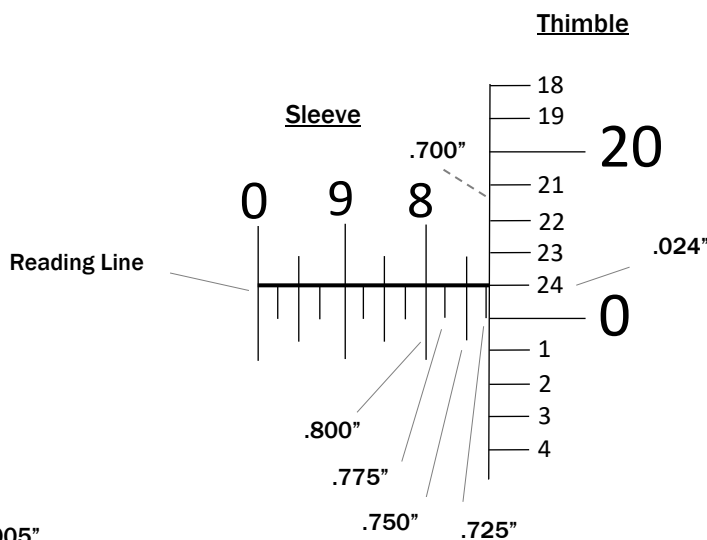

Fig.13B
2. Fig.13B, Which of the smaller thousandths (.025") lines are showing on the sleeve below the 8 line? If the .775", .750" and .725" lines are showing then the measurement is greater then $>.700"$ but less then $<.725"$.
4. Fig.13B, the line on the thimble reads "24" (.024"). The measurement is; $.700" + .024" = .724"$